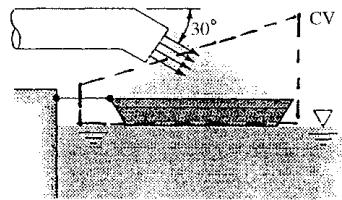

Fig. P3.70
**3.70** The dredger in Fig. P3.70 is loading sand ( $\text{SG} = 2.6$ ) onto a barge. The sand leaves the dredger pipe at 4 ft/s with a weight flux of 850 lbf/s. Estimate the tension on the mooring line caused by this loading process.